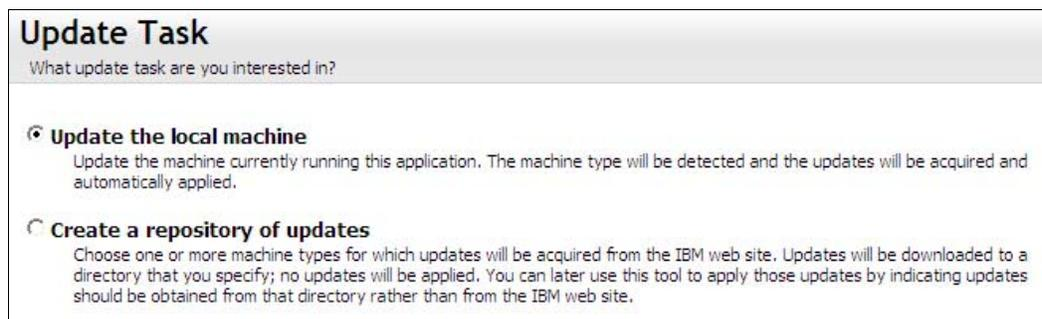

Figure 4-8 UXSPi Update Task
5. The Update Task panel, shown in Figure 4-8, allows you to choose to update the local machine or create a repository of updates. If you choose to create a repository, no updates are applied at that time. Click **Next**.